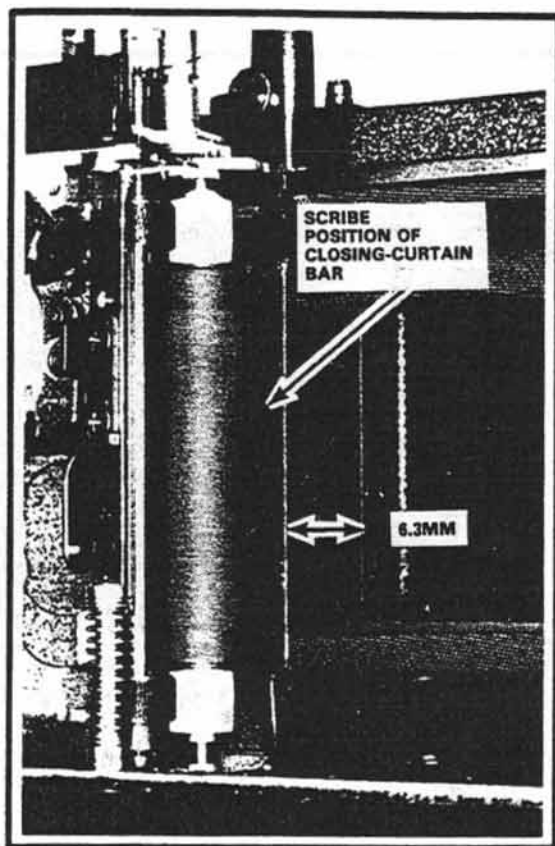

Figure 152
1. Hold open the shutter on bulb. Then, **place a scribe line inside the body casting to mark the position of the closing-curtain bar**, Fig. 152. Your scribe line shows you proper timing for the closing-curtain wind gear. When the closing-curtain latch holds the closing-curtain wind gear, the lead edge of the closing curtain should be a certain distance away from the focal-plane aperture — the distance marked by your scribe line. You can adjust this distance by changing the timing between the closing-curtain wind gear and the closing-curtain winding roller.
On reassembly, first time the closing-curtain wind gear. Time the closing-curtain wind gear with the closing-curtain winding roller until the closing curtain comes to your scribe line, Fig. 152. Then, time the opening-curtain wind gear for the proper overlap during the cocking cycle.
The distance shown in Fig. 152 varies in different focal-plane shutters. In the Spotmatic, the proper distance is 6.3mm — that's the distance between the lead edge of the focal-plane aperture and the lead edge of the closing curtain. By using the scribing technique, however, you don't need factory specifications.
Suppose, then, that you've set the distance shown in Fig. 152 to less than 6.3mm. That means the closing curtain sits too close to the focal-plane aperture when the closing-curtain latch is engaged. As a result, the closing curtain creeps into the aperture during the slow speeds.